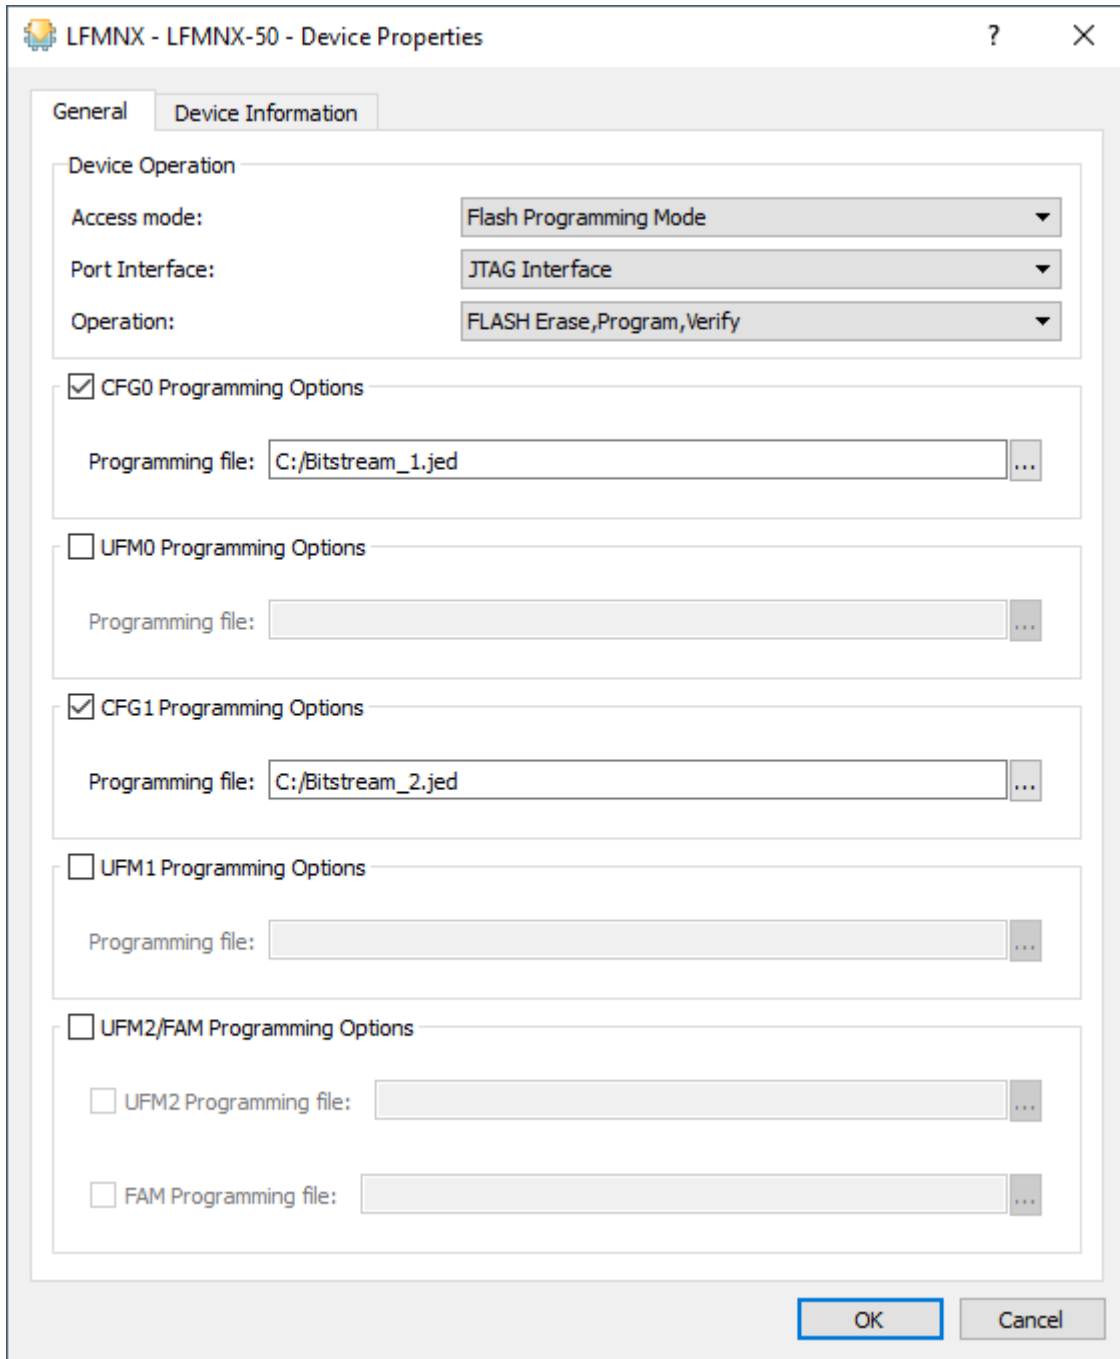

Figure 3.5. Device Properties Window
3. The **Device Properties** window opens (Figure 3.5).